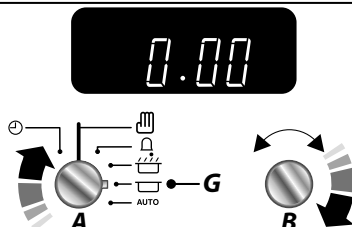

Fig. 2.28
3. Continue to turn the **Adjusting (B)** knob to the amount of time required e.g. 1 minute (**Fig. 2.28**).
5. Turn the **Timer (A)** knob to the **Auto (H)** setting (**Fig. 2.28**). If the display shows the current time and the word 'AUTO' the Multifunction Oven is set to turn on and off.